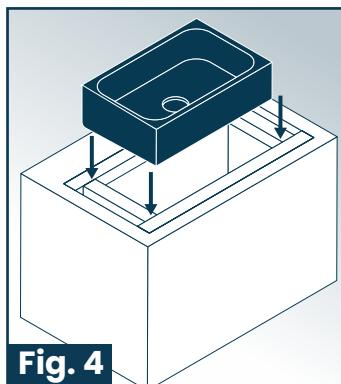
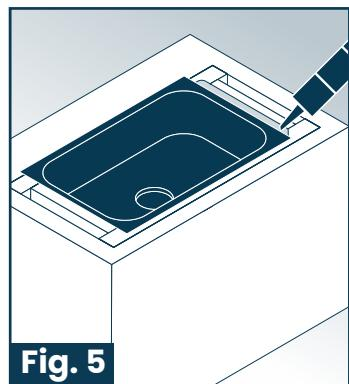

Fig. 4
Fig. 5
5. Set the sink into place. Level the sink with the top of the cabinet. (Fig. 4) (Fig. 5)